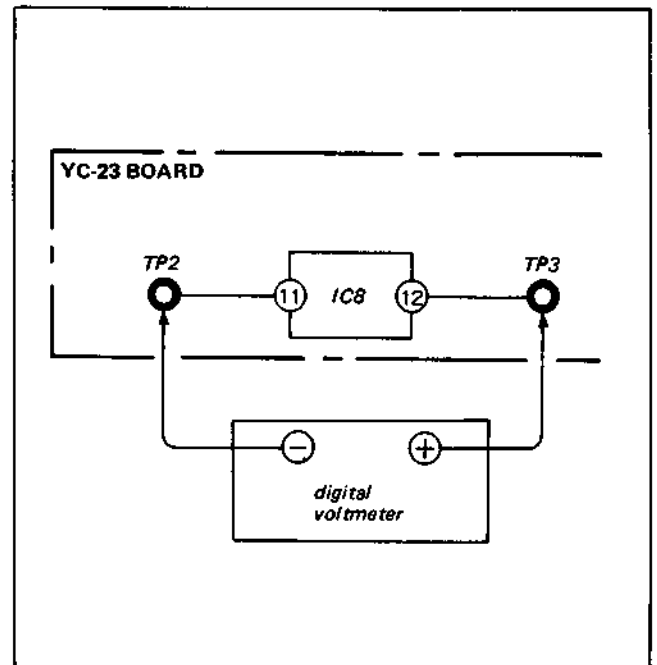

Fig. 4-18. Measurement points
- (1) Supply the VTR with colour bar signal and set up the E-E mode.
- (2) Connect the digital voltmeter to the points shown in Fig. 4-18.
- (3) Adjust RV5 for  $0.310 \pm 0.004V$  dc.